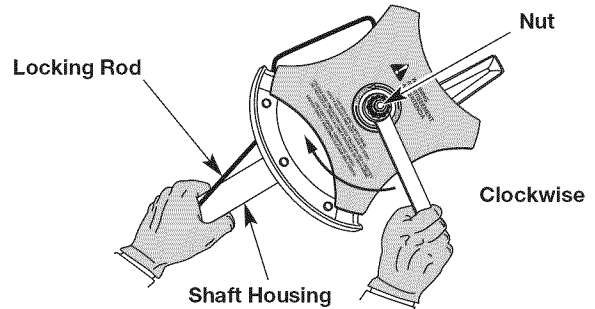

Fig. 17
2. Hold the locking rod firmly against the shaft housing (Fig. 17).
3. While holding the locking rod in place, loosen the nut by turning it clockwise with a 5/8 inch closed-end or socket wrench (Fig. 17).
3. Hold the locking rod firmly against the shaft housing (Fig. 17).